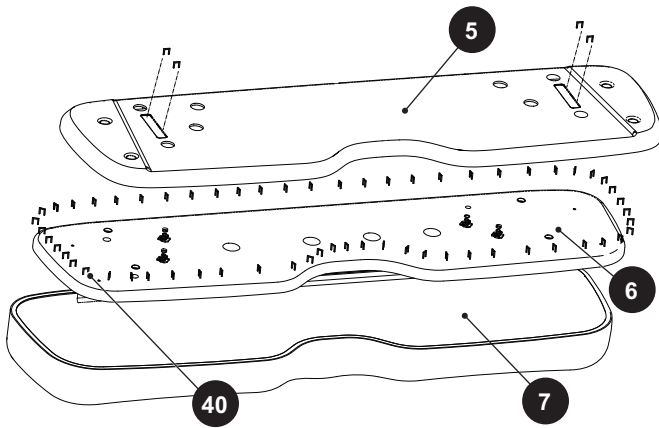

Fig. 6 Seat Cushion
2. Remove the back cover (5).
3. Remove the staples (40).
4. Separate the seat back base(6) and seat cushion (7) (Ref. Fig. 6).